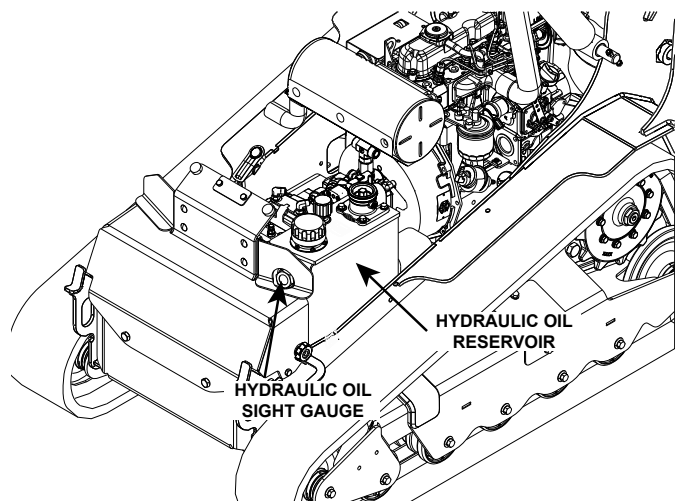

Figure 6-10. Hydraulic Oil Reservoir
2. Check oil level in the sight glass. See Figure 6-10.